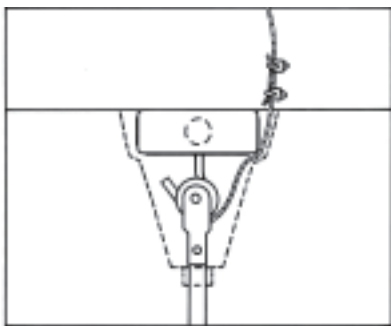

Figure 3
9. This fan is equipped with the required “secondary support” cable. This cable must be affixed to the beam structures and securely clamped in such a manner to support the weight of the fan in the event the mounting hook or other parts fail. After wrapping cable around a structural member that will support 300 lbs., secure cable with supplied cable clamps as illustrated in Figure 3. (Note: Any additional materials needed for specific installations may be purchased from your local distributor.)
IMPORTANT CAUTION: The safety cable must not be placed between the rubber roller and hook but as illustrated in Figure 3.
- When hanging fan on factory supplied "J" hook, make sure cable at top of rod is positioned behind "J" hook as illustrated in Figure 3.